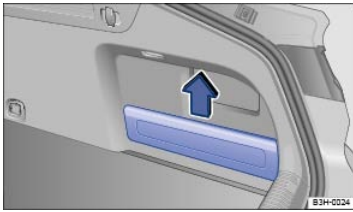

Fig. 151 In the luggage compartment: Side storage compartment with removable panel.
- *To remove:* Pull the side panel upward in the direction of the arrow ⇒ Fig. 151.